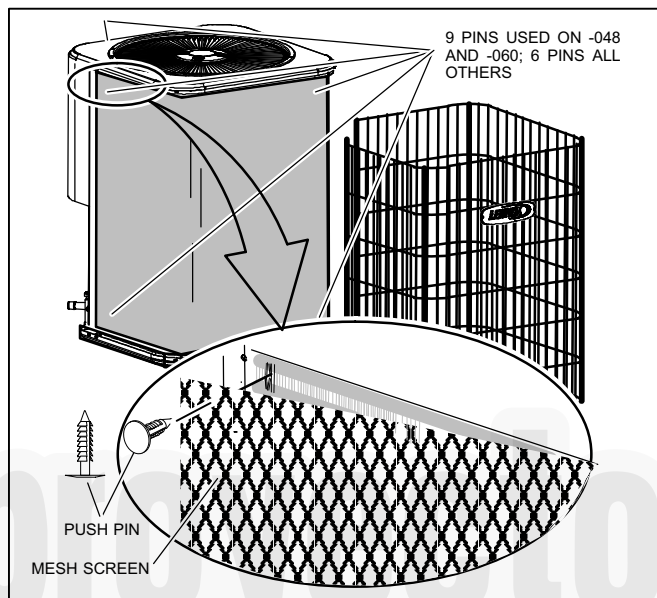

Figure 23. Cleaning Debris from Mesh
2. The outdoor coil is protected by an inner mesh screen and a wire cage (see figure 23). If debris has collected between the mesh screen and the coil and cannot be dislodged by spraying unpressurized water from inside coil surface to the outside, the mesh may be removed by first removing the top of the unit which will allow for removal of the wire cage.